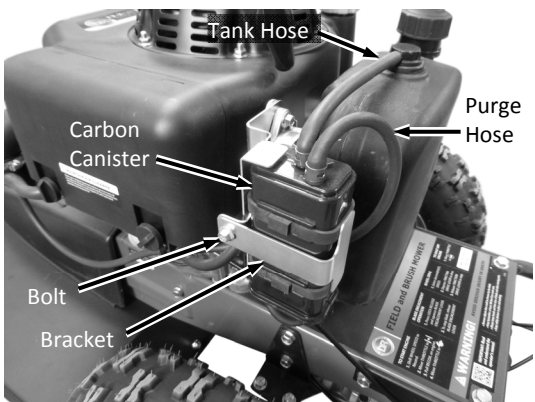

Figure 26
1. Pull the two hoses from the top of the Carbon Canister (Figure 26).